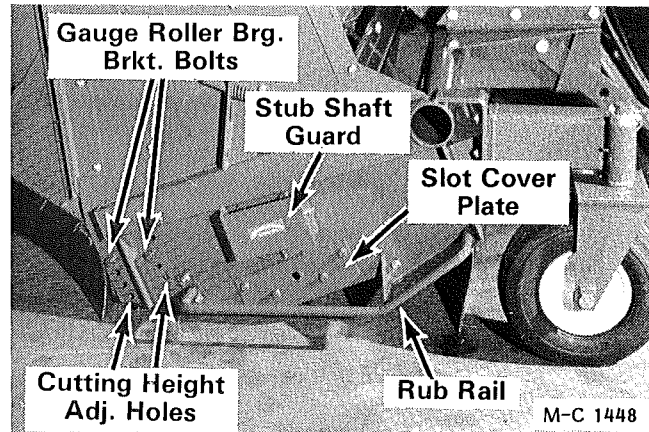

Figure 7
1. Install the right and left rub rails to the sides of the Model 72FP body with 3/8-16 x 3/4" truss head screws, lock-washers and hex-nuts. Right rub rail is shown in Figure 7.